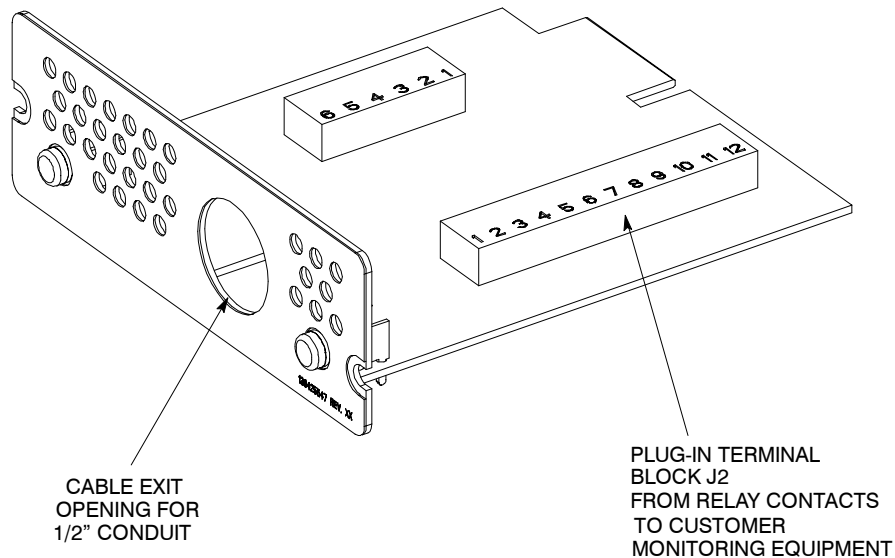

Figure 6–1. Industrial Relay Card (IRC)
As an option, an *Industrial Relay Card (IRC)* can be installed to indicate the operating status of the UPS system using the customer's monitoring equipment. The IRC uses normally open or normally closed dry relay contacts to indicate the UPS status as listed in Table 6–1. Figure 6–1 shows an IRC.
3. Install wiring from the IRC to the monitoring equipment using ½-in. conduit through the cable exit opening in the IRC (see Figure 6–1).
4. Connect wiring between the the IRC and the monitoring equipment using terminations shown in Table 6–1. See Figure 6–1 for plug-in terminal block locations.